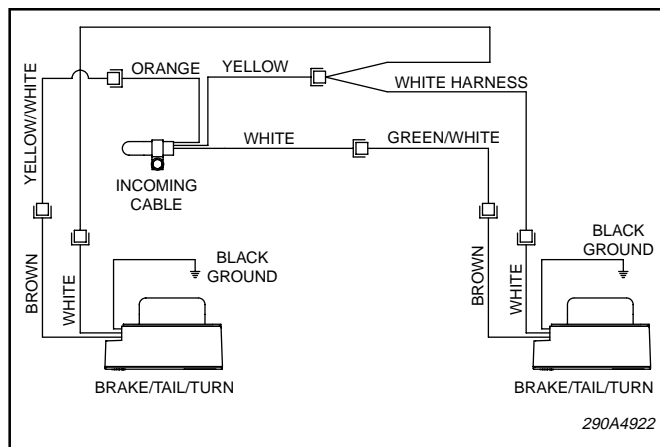

Figure 2.
6. Using figure 2 as a guide, connect the wires from the stop/tail/turn assemblies to the proper pre-existing wires.